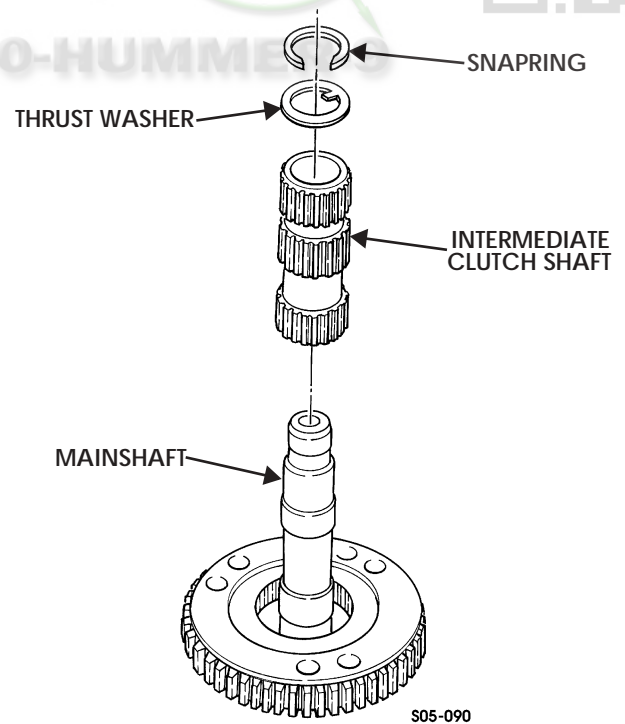

Figure 5-143: Mainshaft
34. Remove snapping, thrust washer, and intermediate clutch shaft from mainshaft (Figure 5-143).